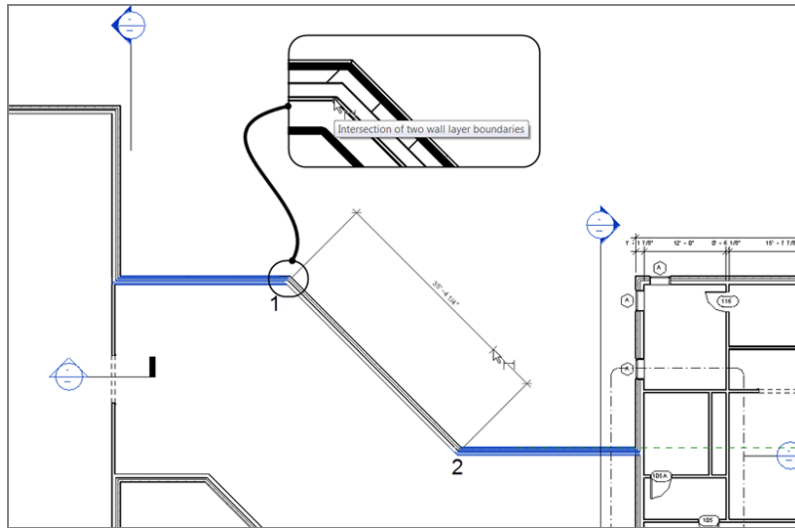

FIGURE 5.10: Press the Tab key to select the point shown.
1. Zoom in on the 45° corridor area (the portion of the east building where the corridors meet), as shown in Figure 5.10.
4. Hover your pointer over the inside face of the brick in the angled wall (see Figure 5.10).
6. When the square grip appears, pick it (see Figure 5.10).